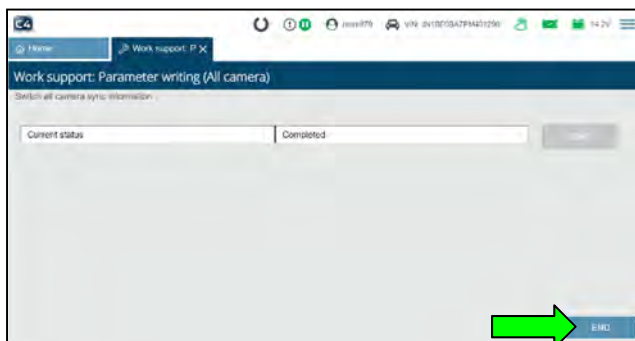

Figure 6
- It may take up to 5 minutes before the screen in Figure 6 on page 6 to display once the green Play icon is selected.
- If the **Parameter writing** is successful (Figure 6), select **END** and then continue to step 12.